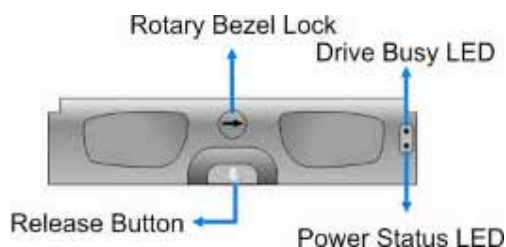

Figure 2-17: Front View of an Individual Drive Tray
- Step 1.** Make sure **the rotary bezel lock is in the unlocked position**, i.e., the groove on its face is in a horizontal orientation. If the groove is in a vertical position, as shown in **Figure 2-17**, then the bezel lock is locked and the front bezel cannot be opened.